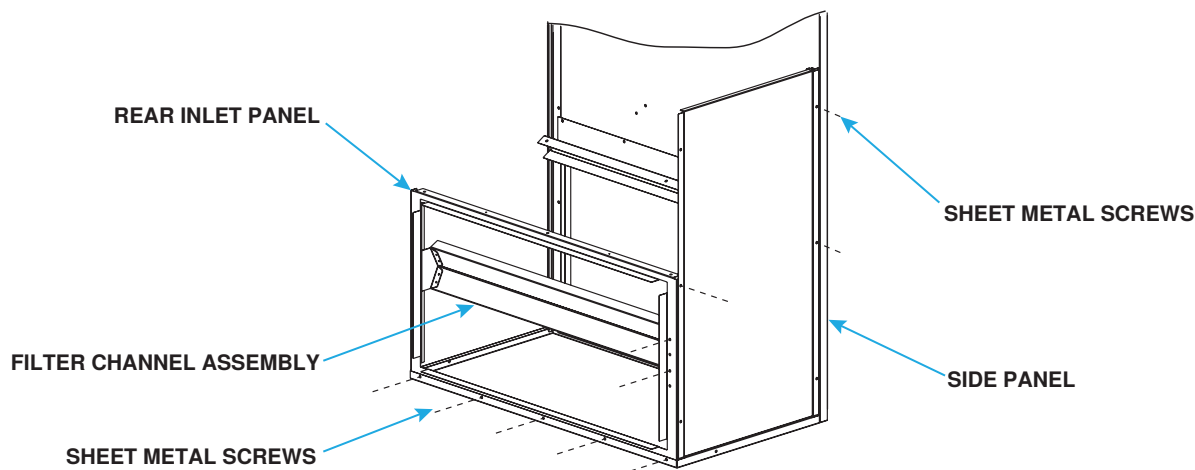

Figure 10. Install Side and Rear Inlet Panels and Filter Channel Assembly
3. Install side panel, rear inlet panel, and filter channel assembly as shown in **Figure 10**: